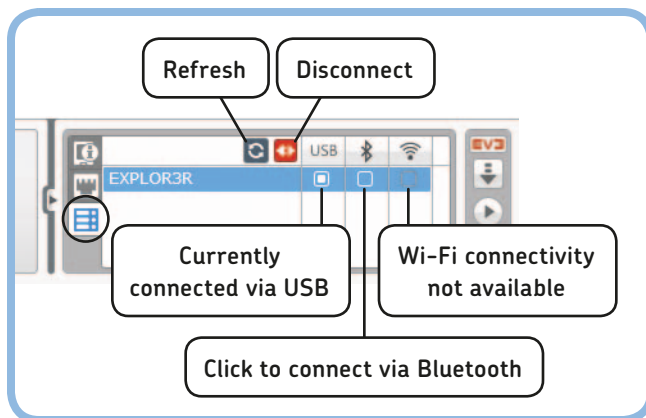

Figure A-7: You use the Available Bricks tab to manage connections to the EV3 brick. If a checkbox is greyed out, the connection type isn't currently available.
The Available Bricks tab lists the personalized name of each EV3 brick detected by the EV3 software. Depending on how your EV3 is configured, you can choose to connect the EV3 via USB, Bluetooth, or Wi-Fi by clicking the checkbox in the appropriate column. For example, the EV3 in Figure A-7 is called EXPLOR3R, and it's connected to the computer via USB.
4. In the EV3 software on the computer, go to the Available Bricks tab on the Hardware Page and click **Refresh**, as shown in Figure A-7. The search process should take about 30 seconds. When ready, the list of EV3 devices is updated with the EV3s that are available for a connection.
4. Go to the Available Bricks tab on the Hardware Page, and click **Refresh**, as shown in Figure A-7.